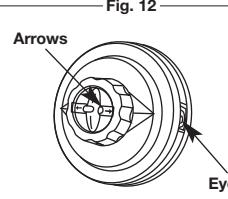

Fig. 14
- Align the arrows on the bump knob with the spool cover eyelets, if they are not already (Fig. 14).